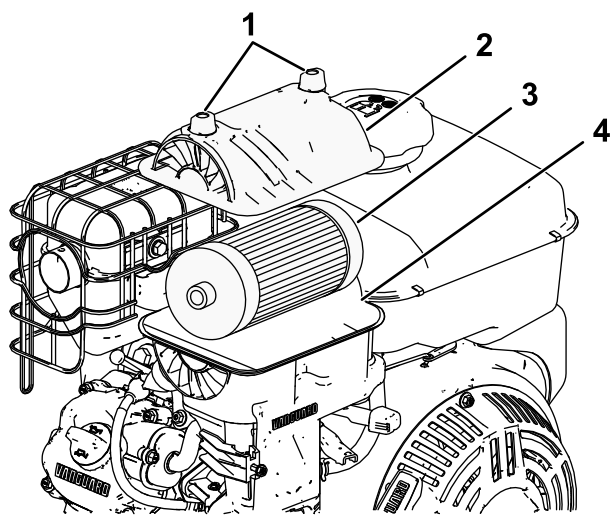

Figure 68
3. Remove the cover and thoroughly clean it (Figure 68).
3. Install the air filter to the air-filter base (Figure 68).
1. Remove and inspect the paper air-filter element (Figure 68); if the air-filter element is excessively dirty, replace it.